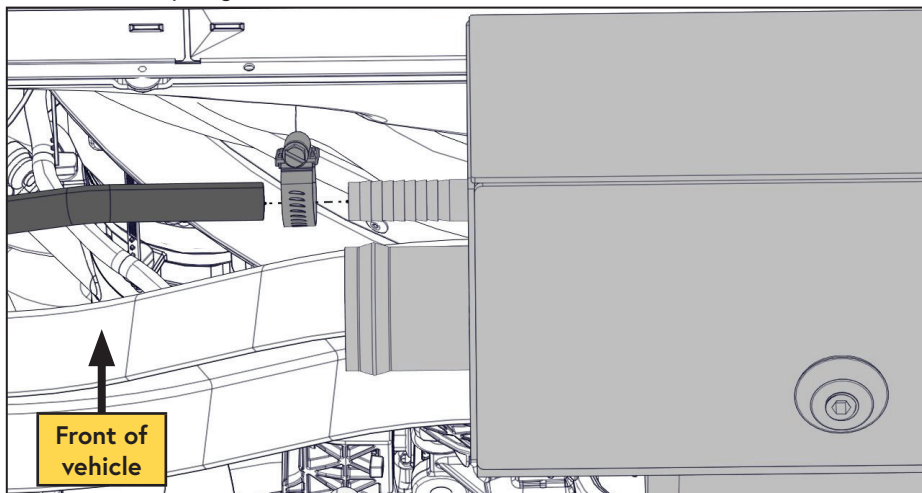

Figure 38 — Connect hose to VMAC cooler
- ☐ Connect the hose to the small spigot on the passenger side of the cooler using a hose clamp (Figure 38).